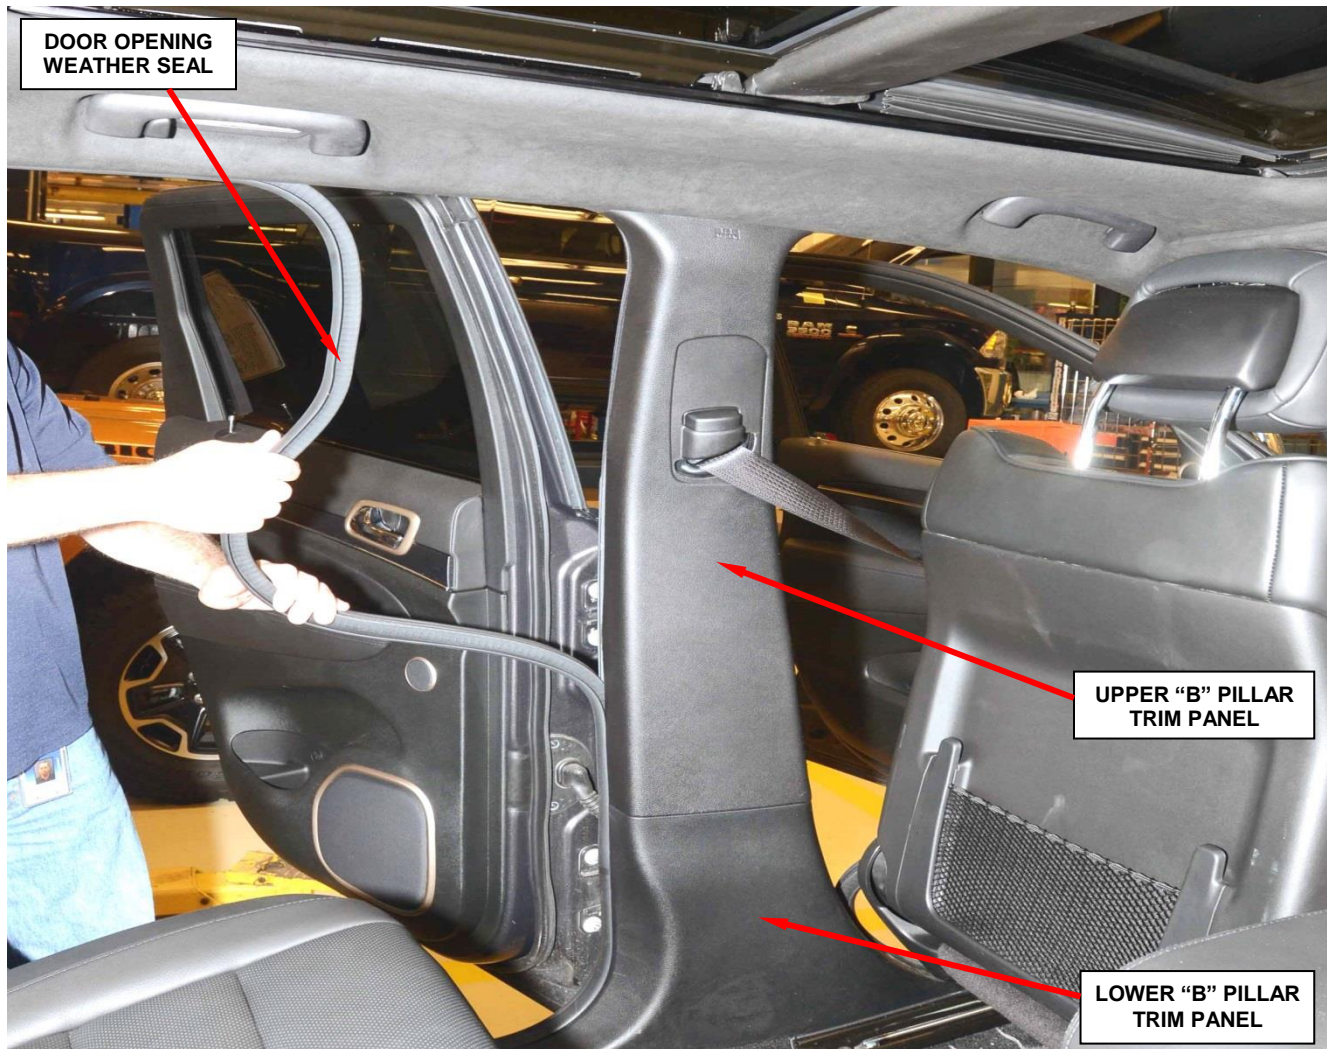

Figure 5 – Rear Door Weather Seal and “B” Pillar Panels
12. Remove and save the right and left side rear door weather seals (Figure 5).
13. Remove and save the right and left side upper and lower “B” pillar trim panels (Figure 5).